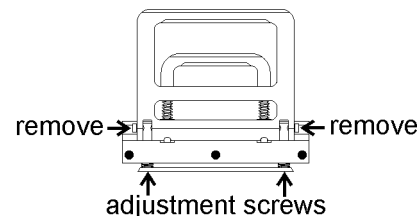

**Figure 3-1.** Pin
1. Pull universal platform from the cabinet. At the back of the platform are two tapered pins (Figure 3-1).